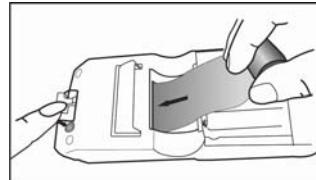

Fig.6-11
3. Press the Paper Feed button and then begin installing paper as shown in Fig.6-11.